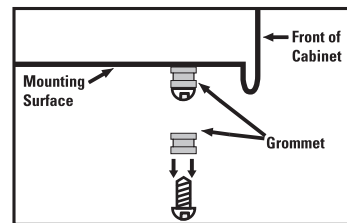

FIG. 3
3. Place the two small rubber grommets over the mounting screws. Screw in the two #8 mounting screws until the rubber grommets contact the bottom surface of the cabinet. Then turn the screws another 1/4 turn. The screws must be driven in straight for the light bar to mount properly. (FIG. 3).